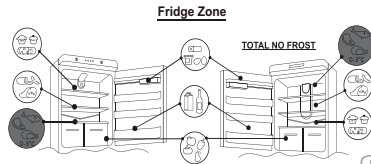
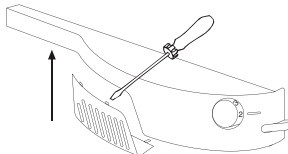

Fig.14
Fig.21
- To maintain the best flavour, nourishment and freshness of foods, it is advisable to store them in the refrigerator compartment as shown in fig14 below, making sure to wrap them in aluminium or plastic sheets or in appropriate covered containers to avoid cross-contamination.
To replace the lamp bulb, place the thermostat knob on 0 and disconnect the power cord. Remove the protective cover (fig. 14), replace the bulb with a power rating analogous with that indicated on the protective cover.(Fig.21)